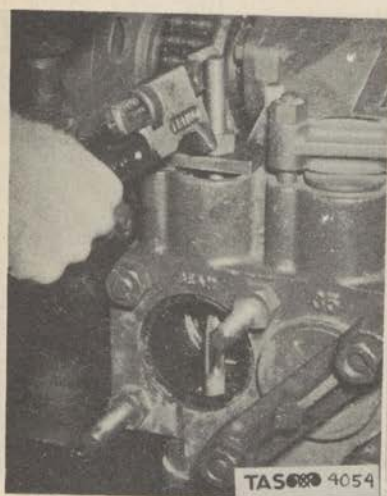

Figure 94. Loosening the Lower Valve Seat
(4) Loosen the valve by tightening the upper nut on the valve seat remover. (Fig. 94)